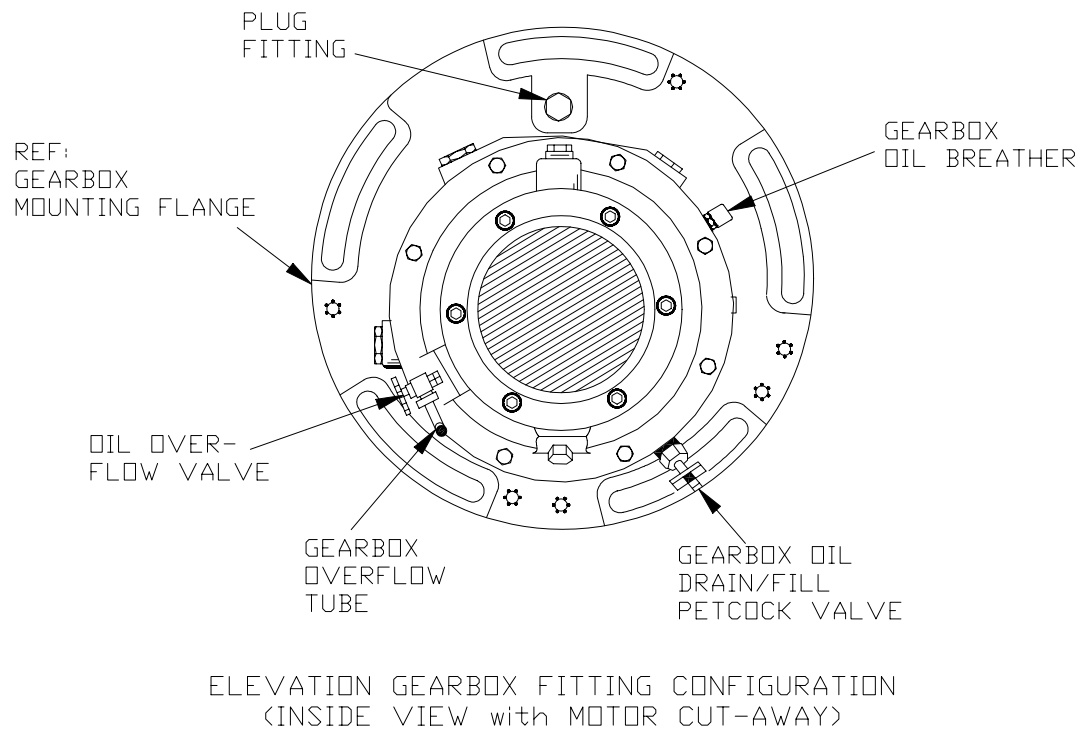

Figure 3. Elevation Gearbox Petcock Valve Location
- h. Using Figure 3 as a guide, count the number of petcock valves and annotate the number on ATTACHMENT 2.